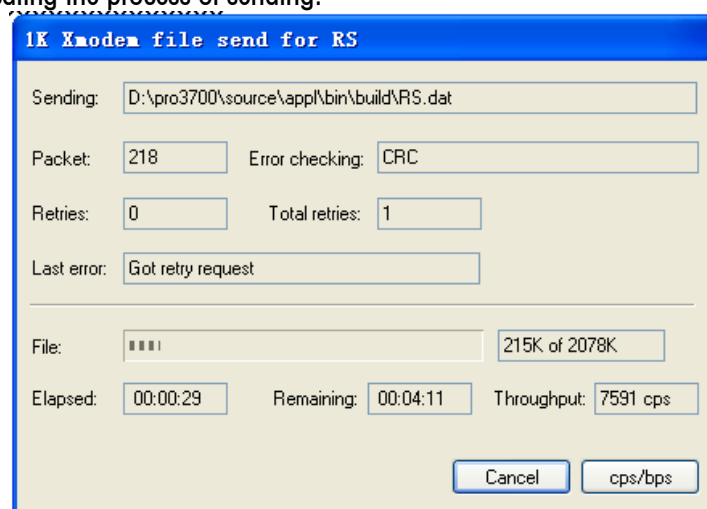

Figure 1-7
8. Figure 1-7 appears, indicating the process of sending.